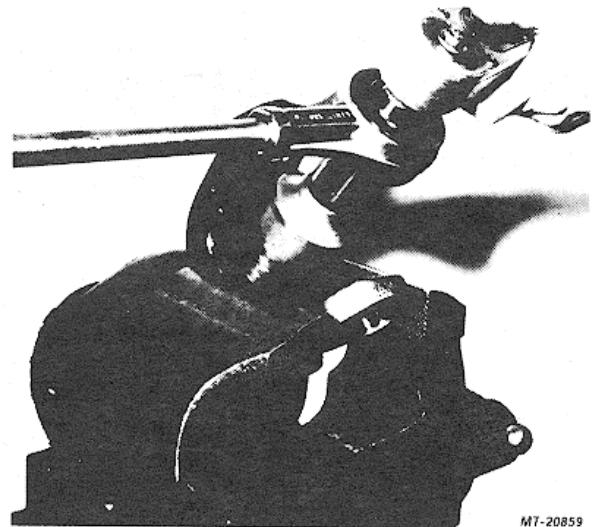

Fig. 43. Tightening Companion Flange Nut
12. Using suitable flange holder tool or by clamping assembly in vise (Fig. 43), tighten end nut to specified torque. (see "Torque Chart")